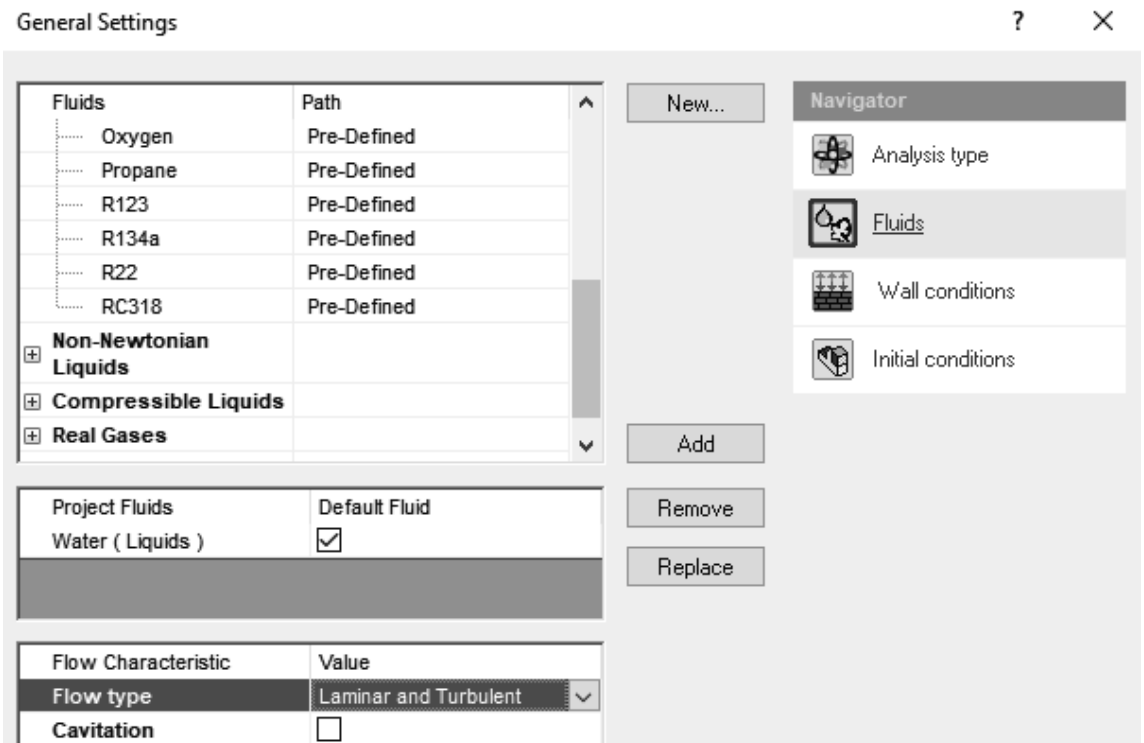

Figure 2.27d) Selection of fluid and flow type
26. In the next step, we will clone the project. Select **Tools>>Flow Simulation>>Project>>Clone Project...**. Enter the Project Name “**Flat Plate Boundary Layer Study Using Water**”. Select **Create New Configuration** and exit the **Clone Project** window. Next, change the fluid to water in order to get higher Reynolds numbers. Start by selecting **Tools>>Flow Simulation>>General Settings...** from the SOLIDWORKS menu. Click on **Fluids** in the **Navigator** portion, select **Air** and click on the **Remove** button. Select **Water** from the **Liquids** and **Add** it as the **Project Fluid**. Change the **Flow type** to **Laminar and Turbulent**, see figure 2.27d). Click on the **OK** button to close the **General Settings** window.